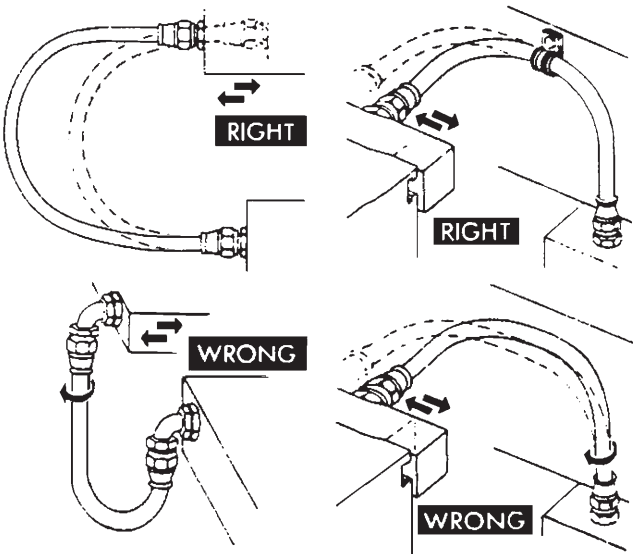

Figure 24. Flexing Installations.
- (1) Hose should be bent in same plane as movement to avoid twisting. See Figure 24.
- (2) Hose flexing in two directions should be clamped at the point where the hose changes planes. (This has effect of dividing hose into sections, each in one plane.) See Figure 24.